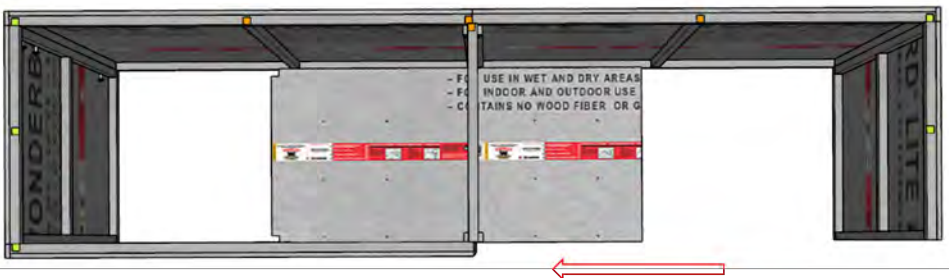

Figure 9
- Insert module 1 floor as shown in figure 9